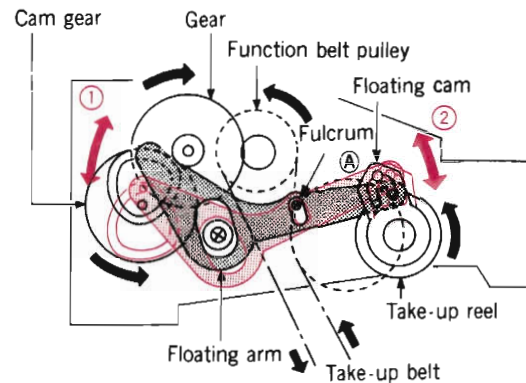
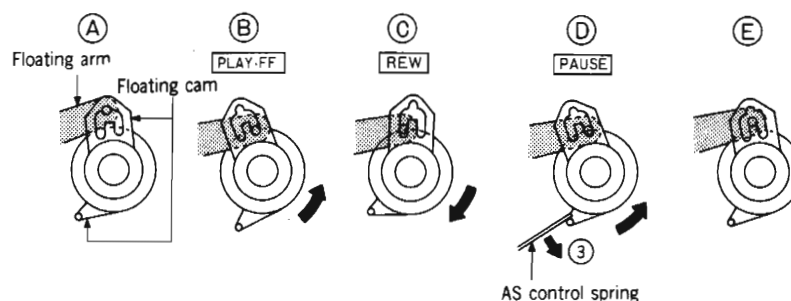
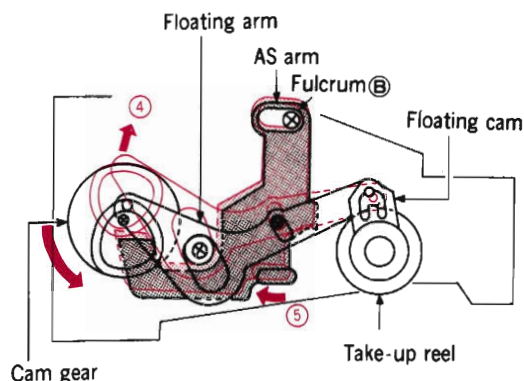

Fig. 13
Fig. 14
Fig. 15
1) Fig. 13 shows the tape-end detector of the auto-stop mechanism.
The floating cam is provided on the same axis as the take-up reel shaft, and it lightly touches the reel by means of the spring. Utilizing the face that when the reel rotates, the floating cam faces in the direction of rotation, the floating movement of the cam gear and the floating arm, which has its fulcrum at (A) as shown in Fig. 13, is applied to this floating cam, to detect the end of the tape.
Shafts, which enter into the cam of the cam gear and the shaft which in turn enters into the slide groove of the floating cam are provided at both ends of the floating cam; the floating movement is carried out in the direction of arrow ① with its fulcrum at (A) as shown in Fig. 13, by means of the rotation of the cam gear.
When the cam of the cam gear rotates to the position shown in color in Fig. 13, the shaft of the floating arm on the floating cam side goes into the mode shown in (A) of Fig. 14.
Next, when the cam gear rotates to the position shown in black, the position of the shaft on the floating cam side goes into the mode shown in (B) of Fig. 14 during playback or fast forward, and (C) during rewind. These slide grooves are determined by the direction of rotation of the reel.
Incidentally, during pause, since the reel is being stopped, the auto-stop mechanism starts to operate. To prevent this, the floating cam is pressed in the direction of arrow ③ (take-up direction) by the auto-stop control spring as shown in (D) of Fig. 14 during pause and stop.
(The AS (auto-stop) control spring is operated by the sliding of the brake plate; it is so designed that the AS control spring is released from one end of the floating cam and the floating cam faces in the direction of rotation of the reel, except during the pause and stop modes.) When the tape is finished and the reel stops, the floating cam side shaft of the floating arm slides between (A) and (E) in Fig. 14. This width in which it slides is smaller than that between (A) and (B) or (A) and (C); when the floating arm slides up to point (E) in Fig. 14, the floating arm slides in the direction of arrow ④ in Fig. 15 with the floating cam as the fulcrum. The tape-end is detected by means of this sliding of the floating cam.
- 2) When the tape-end is detected and the floating arm slides, the AS arm as shown in Fig. 15 slides in the direction of arrow ⑤ with its fulcrum at ③.